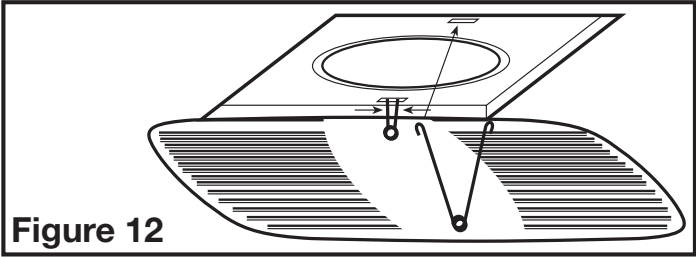

Figure 12
3. Install the grill by squeezing the two ends of the springs together and installing them up into the slots of the fan's housing. Push the grill up into position (Figure 12).